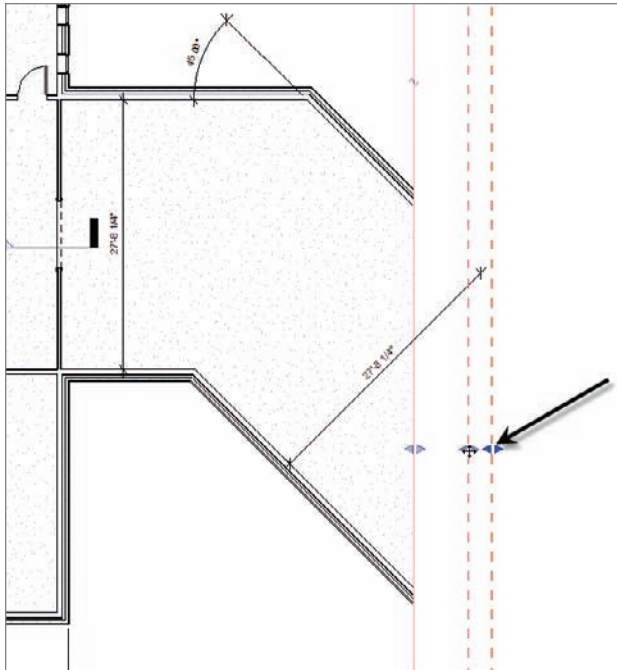

FIGURE 13.8 Stretching the annotation crop region to the left
3. In the corridor, there is a dimension that seems to be floating. This is because the crop region allows this dimension to show. With the crop region still selected, pick the outside stretch grip (as shown in Figure 13.8) and stretch the annotation crop region in until the dimension disappears.